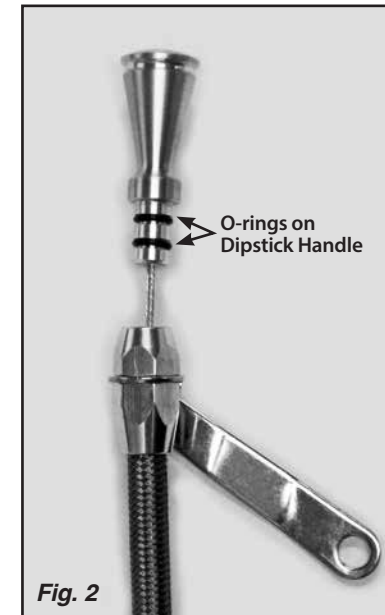
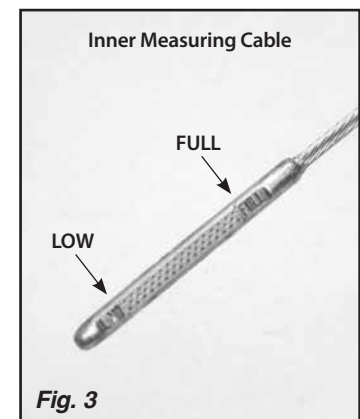

Fig. 2
Fig. 3
**Step 4:** Lightly lubricate the o-rings on the dipstick handle with engine oil. Fig. 2 Insert the handle and inner measuring cable fully into the dipstick tube assembly. Fill the engine with the appropriate amount of oil for your particular application. Verify that the oil level is at the FULL mark on the inner measuring cable. Fig. 3 If it is not, call Lokar Technical Support for assistance. If the oil level reads correctly, then return the handle and inner measuring cable into the dipstick tube assembly.